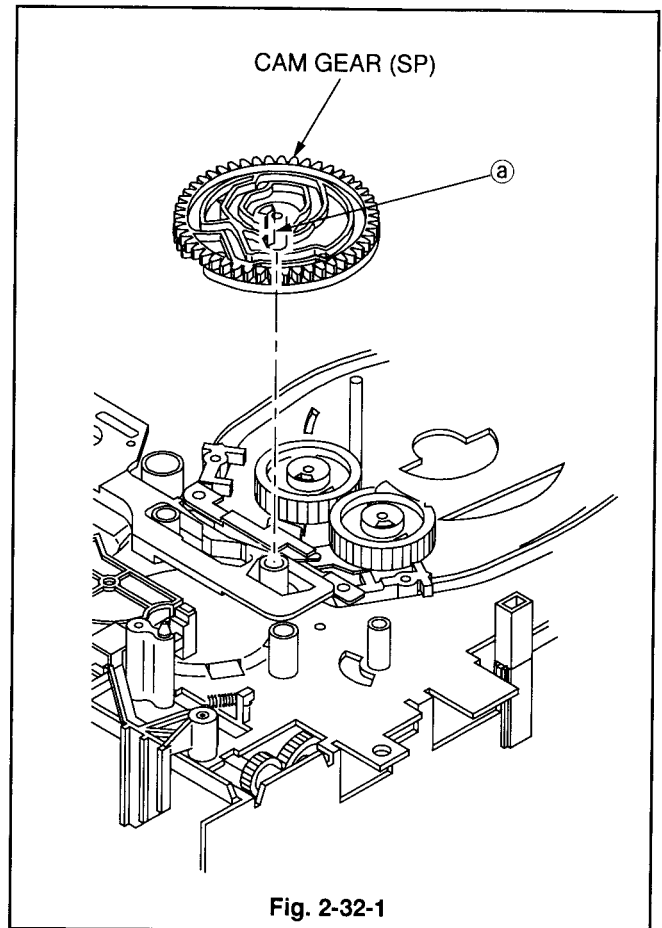

Fig. 2-32-1
- 1 Unfasten the catch (ⓐ) on the surface of the CAM GEAR (SP) shown in Fig. 2-32-1 with tweezers, etc. to remove the CAM GEAR (SP).